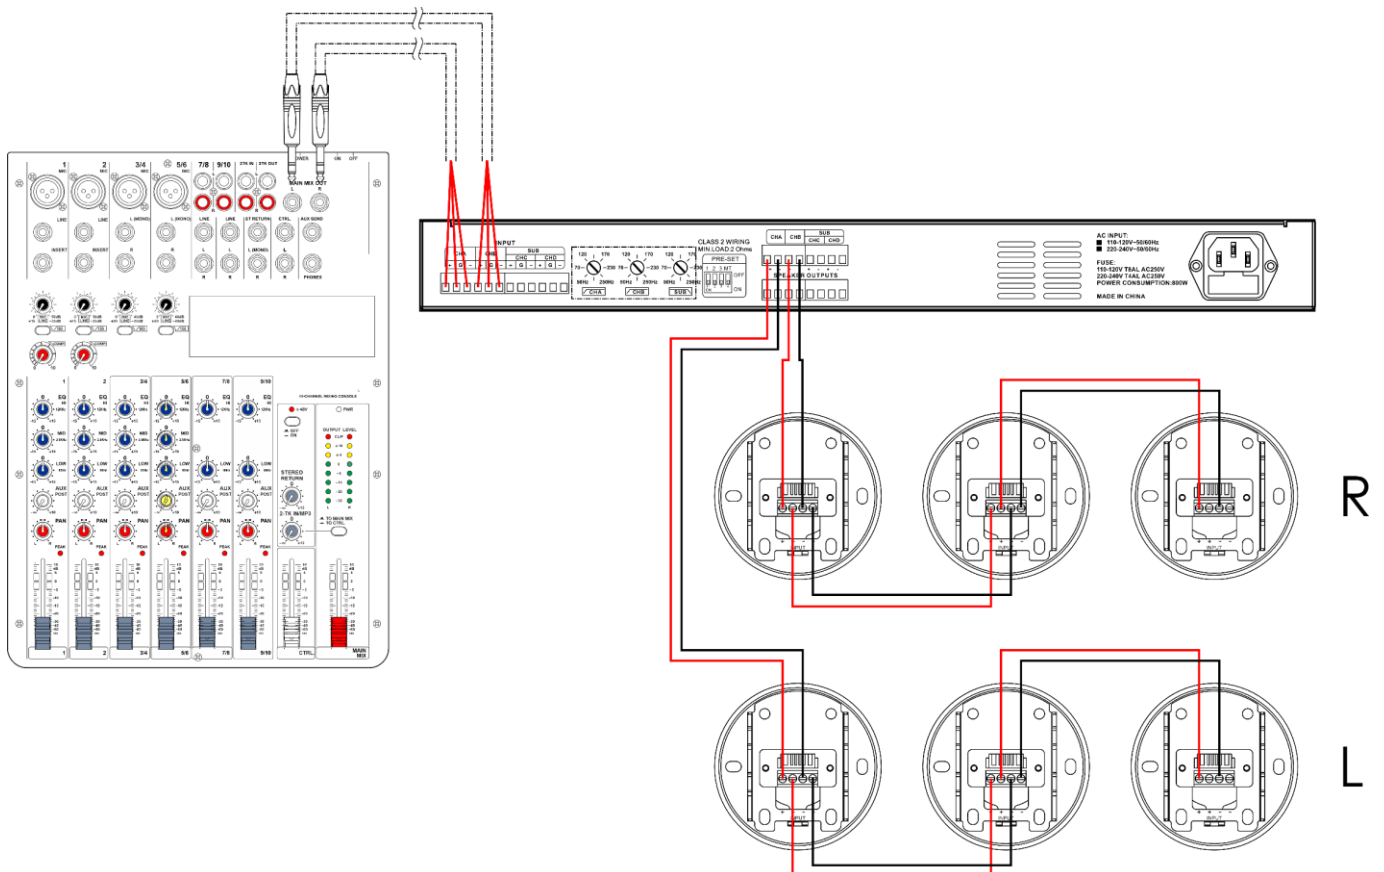

Fig. 12
- 01) Connect the (-) output of the conventional amplifier to one of the (-) connectors on the **mounting plate (07)** of the first speaker.
- 02) Connect the (+) output of the conventional amplifier to one of the (+) connectors on the **mounting plate (07)** of the first speaker.
- 03) Connect multiple speakers as shown in Fig. 12.